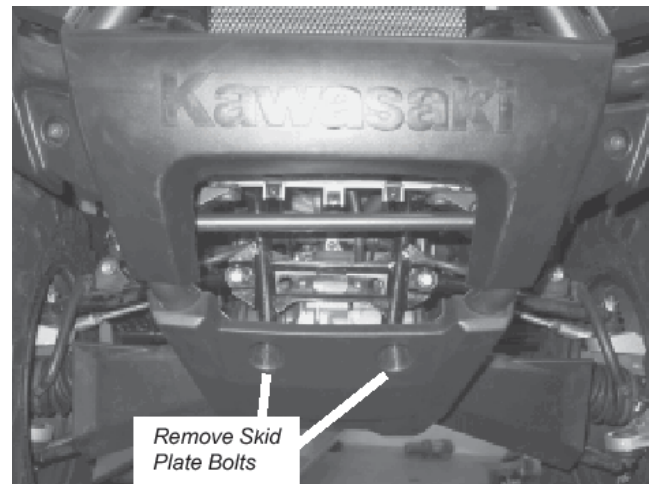

Figure 3
3. If installing on a Brute Force 750, 750i, or 650i you will need to remove the bottom front plastic skid plate by removing the (2) front bolts. See "Figure 3"